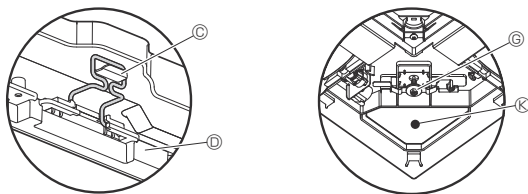

Fig. 9-7
- After tightening the screw, confirm that the two grille hooks (Fig. 9-7) are latched onto the hooks on the main unit.